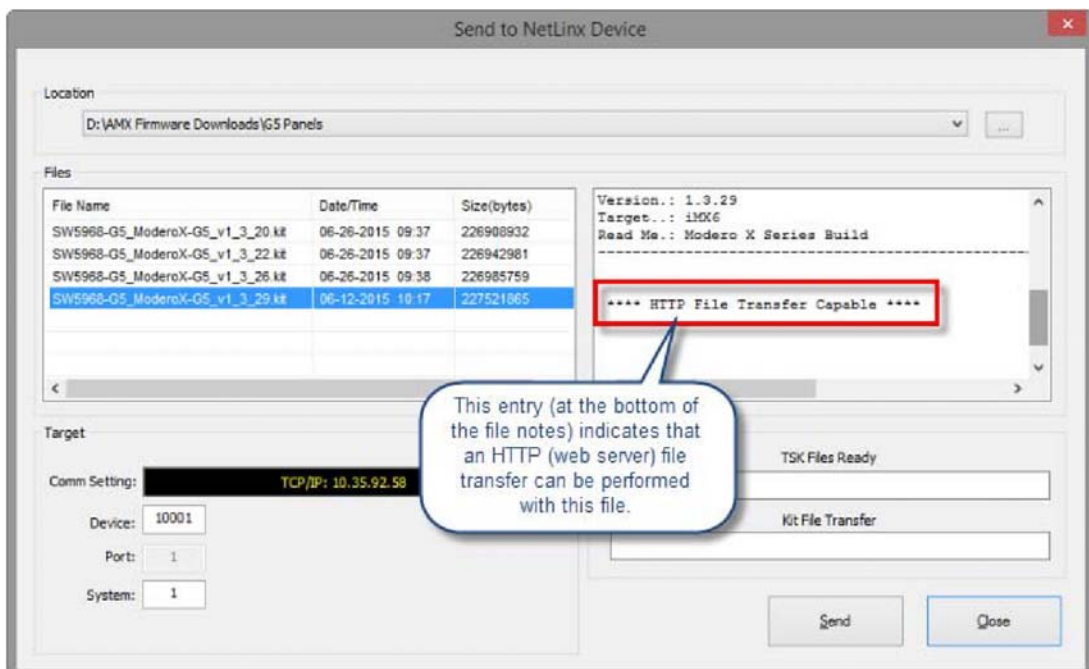

FIG. 159 NetLinX Studio - Send to NetLinX Device dialog This invokes the Send To *NetLinX Device* dialog.
Look for “**** HTTP File Transfer Capable ****” at the end of the file (see FIG. 159 on page 180).
6. In the Files window, click to select the G5 *.kit file to transfer (FIG. 159):